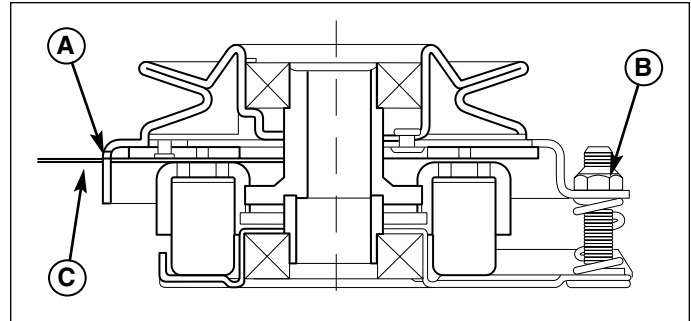

Figure 39. Adjust PTO Clutch
3. Insert a .016"-.018" (0,40 - 0,45 mm) feeler gauge (C) through each window, positioning the gauge between the rotor face and the armature face as shown in Figure 39.